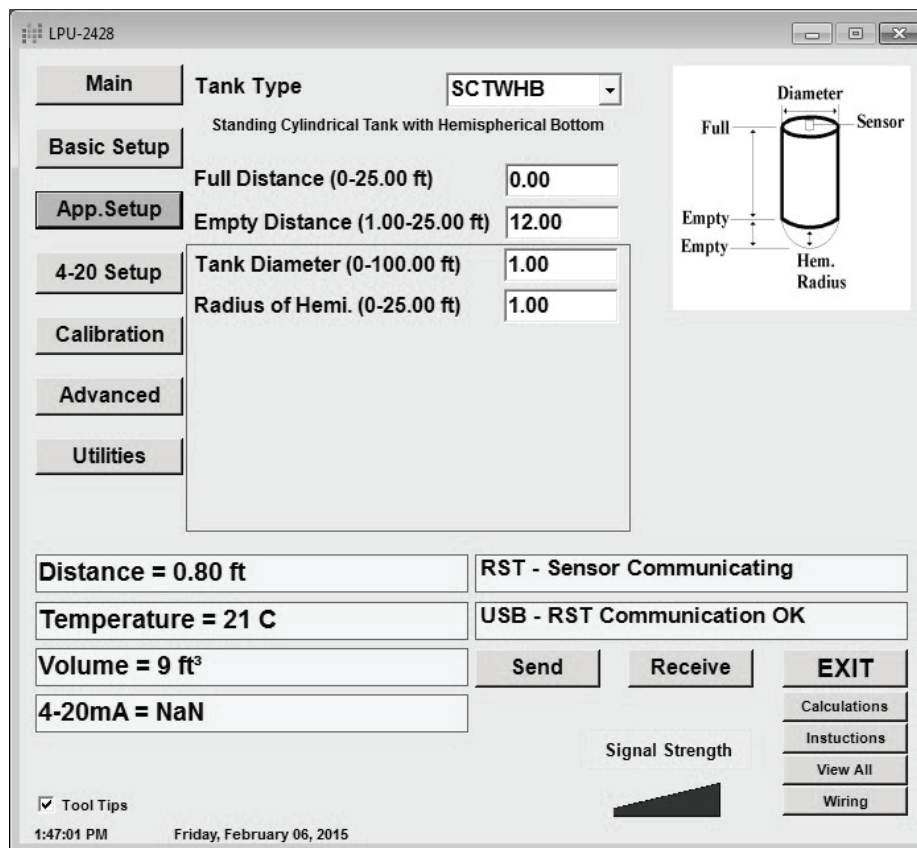

Figure 4.7
Tank Diameter (T Diamet on the RST-4001) sets the diameter of cylindrical (SCTWHB, SCTWCB, HCT) or spherical (ST) tank. (See Figures 4.7, 4.8, 4.10, and 4.11)
*Radius of Hemi* (*Rad Hemi* on the RST-4001) sets the radius of the hemisphere on the bottom (SCTWHB) or end (HCT) of a standing or horizontal cylindrical tank. (See Figures 4.7 and 4.10)